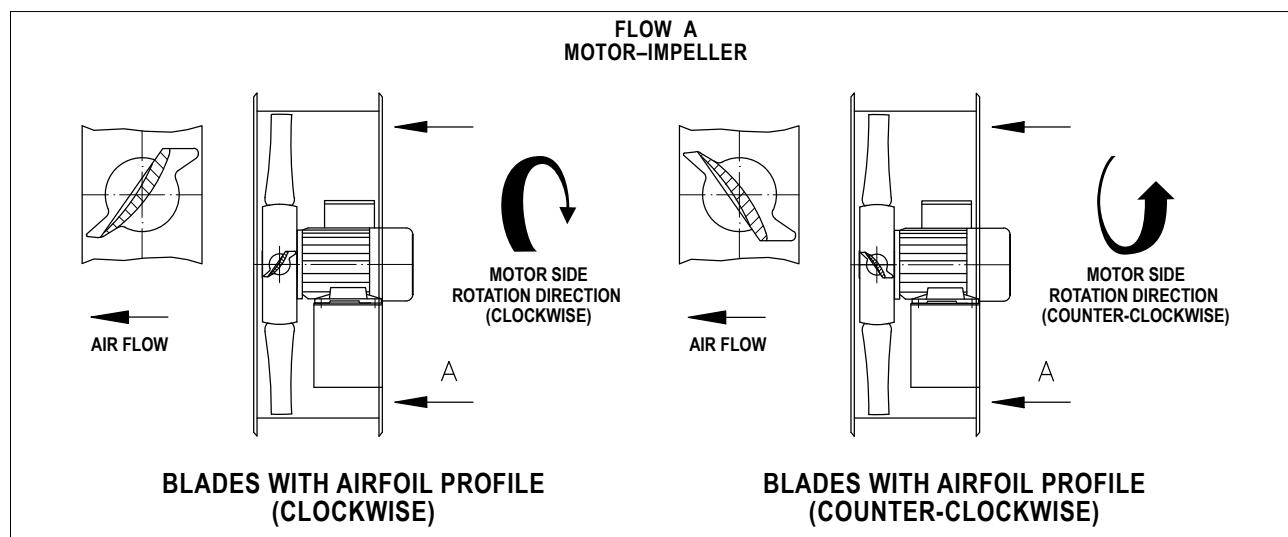

FIG. 19 (Flow "A")
N.B. For the axial fans, verify the correct direction positioning of the impeller (see assembling instructions FIG. 19 and FIG. 20).